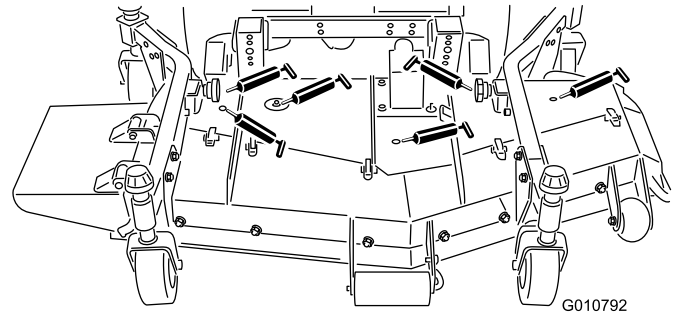

Figure 17
- blade spindle bearings (Figure 17)
- right and left push arm ball joints (Figure 17)